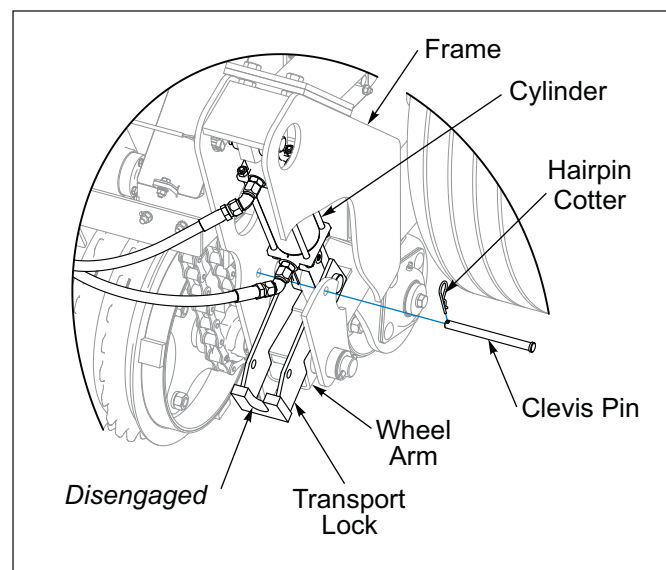

Figure 3-7: Transport Lock Disengaged
5. Disengage each Transport Lock so that the Transport Lock rests on the Wheel Arm. Insert the Clevis Pin in front of the Transport Lock. **See Figure 3-7.**
1. Raise the Seeder fully to extend the Hydraulic Lift Cylinders and rotate the Transport Locks to the stored position. Secure with the Clevis Pins and Hairpin Cotter. **See Figure 3-7.**
3. If the Transport Locks are engaged, raise the Seeder and disengage the Transport Locks. **See Figure 3-7.**